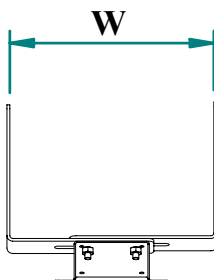
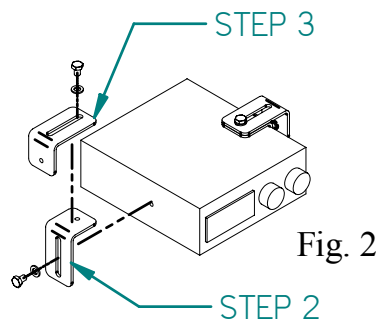
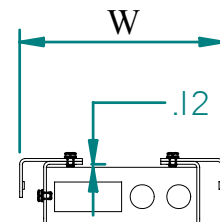

Fig. 1
Fig. 2
Fig. 3
1. Unit is shipped unassembled. Assemble as shown above attaching the two side brackets by their single slotted legs to the base using (2) .25-20 x .75 carriage bolts and hex nuts. Adjust the "W" distance (Fig. 1) between the side brackets to 1" more than the widest equipment to be installed and tighten nuts.
2. Fasten equipment mounting brackets to your equipment by bolting the slotted legs to the equipment mounting holes on each side (Fig. 2). Use 1/4-20 x 3/8" hex head bolts with washers. The tapped legs should extend over the top of the equipment, and there should be 1/8" of space between the tapped legs and the top of the equipment, see Fig. 3.
3. See Fig. 2. Fasten another pair of equipment mounting brackets to the tapped hole of each side bracket, installed in step 2, - or to the equipment tray furnished with your equipment - using 1/4-20 x 3/8" hex head bolts and washers. Before tightening, adjust the outside width across the brackets to equal width "W", so that the assembly will fit the opening in the mounting frame (shown in Fig.1). If the unit is too narrow to do this, turn one or both of the brackets installed in step 2 to face outward, instead of over the equipment.